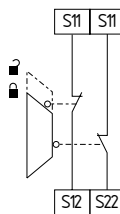

Fig. 9
**Dual-channel guard door monitoring circuit with interlocking device to EN ISO 14119 (Fig. 9)**